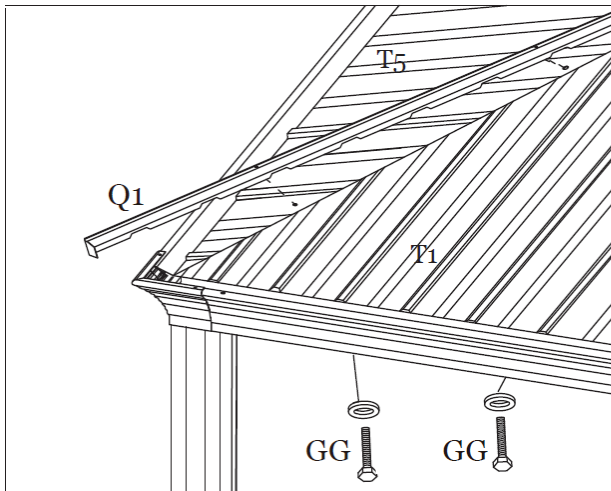
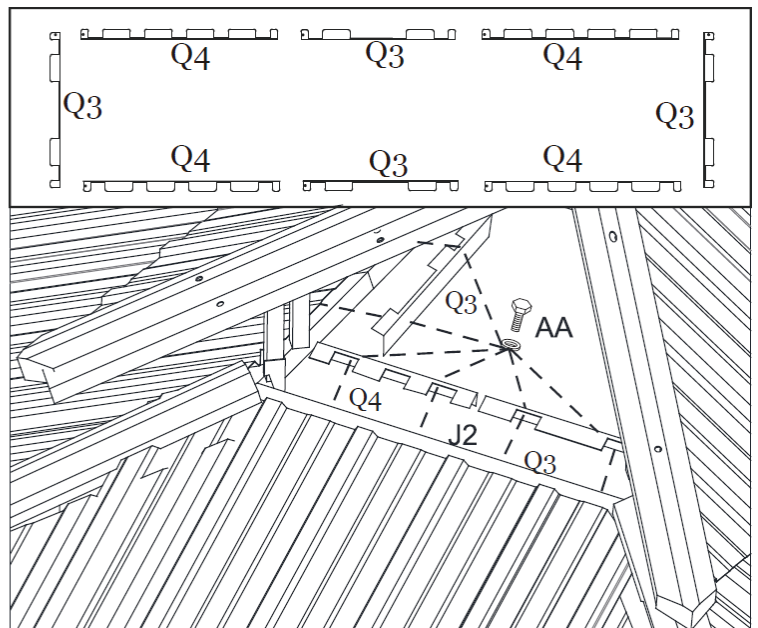
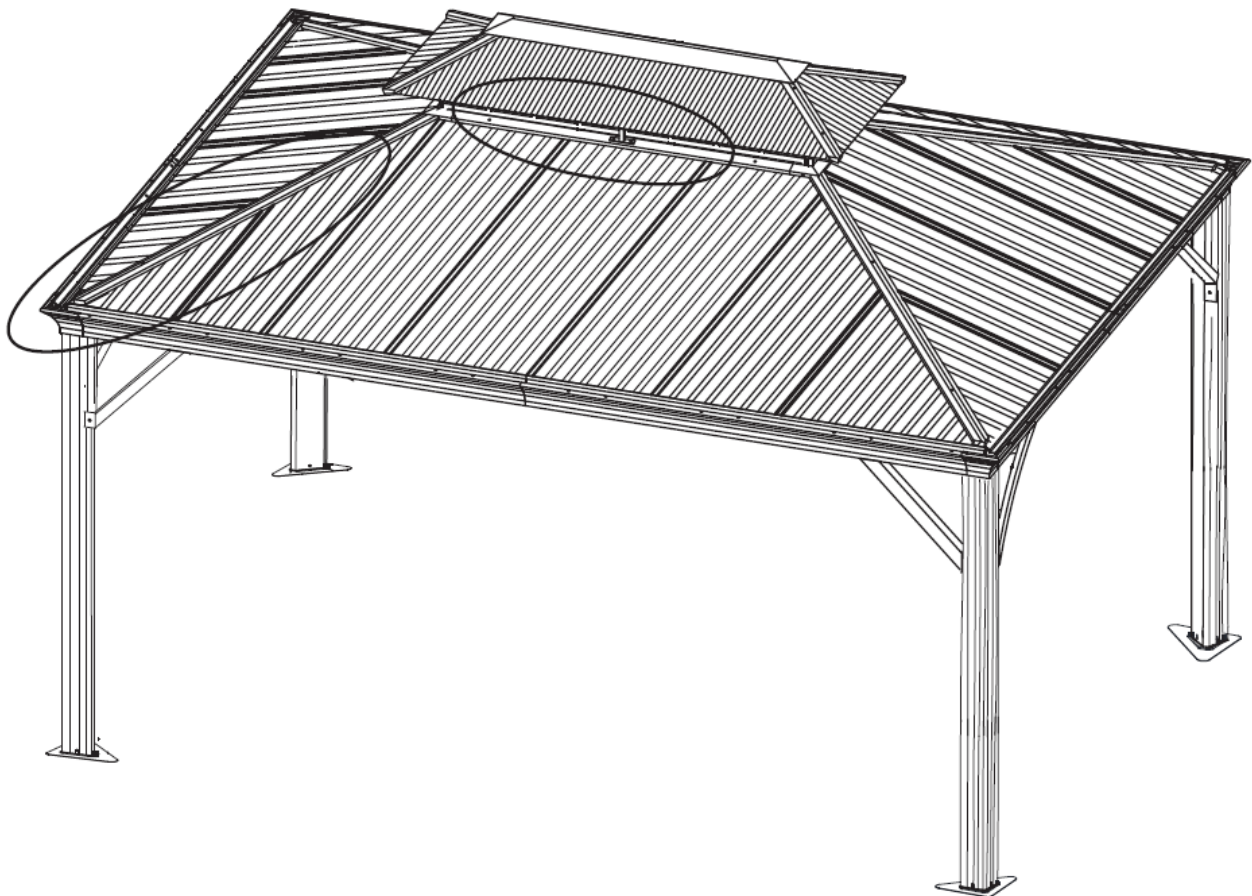

Figure 14-1
Figure 14-2
Figure 14-3
Step 14A: Attach the Main Roof Corner Trim (Q1) to the Main Roof Corner Support (H) using Bolt (GG). Repeat for all corners. See Figure 14-1 and Figure 14-3.
Step 14B: Attach the Main Roof Center Frame Trim (Q3 and Q4) to the Main Roof Center Frame (J1 and J2) using Bolts (AA). Repeat for all sides. **Tighten all Bolts.** See Figure 14-2 and Figure 14-3.